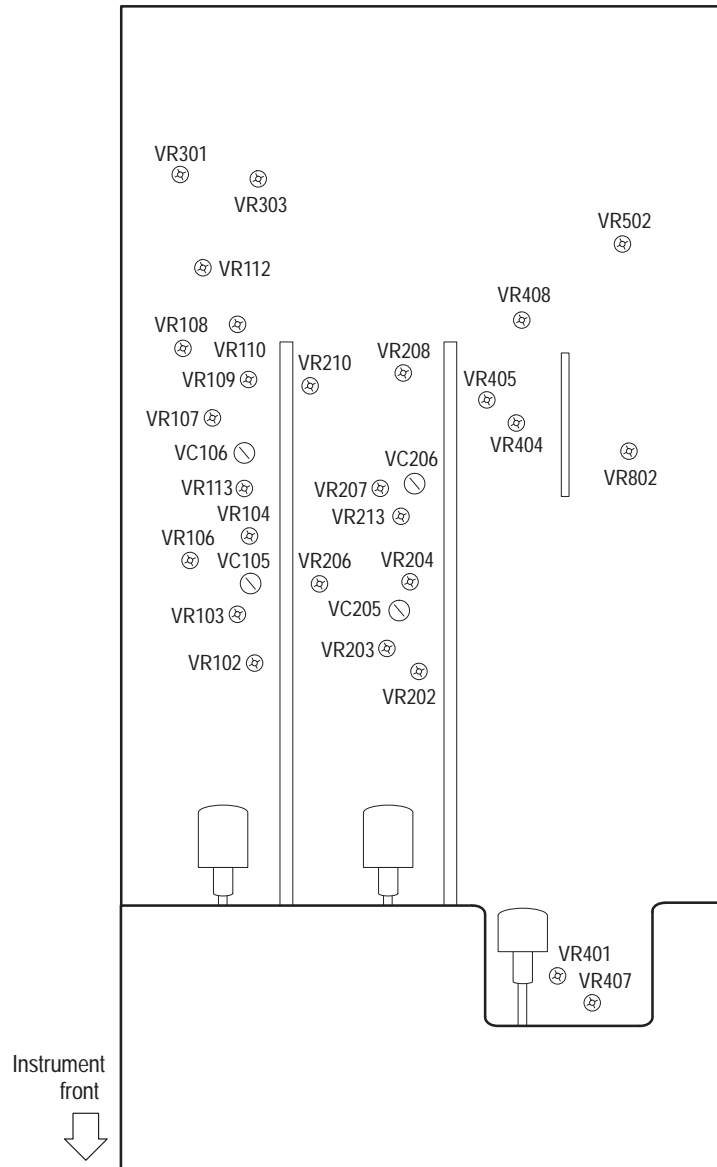

Figure 8: Main board (viewed from the instrument top)
To locate the adjustments for the following procedures, refer to Figures 8, 9, and 10. The Main board occupies the bottom-right side of the instrument.
4. On the Main board, adjust VR104 (VR204) for minimal trace shift when switching the CH 1 (CH 2) VOLTS/DIV control between 2 mV and 10 mV. See Figure 8 for the adjustment locations.
2. On the Main board, adjust VR106 (VR206) for a minimal trace shift while rotating the front panel CH 1 (CH 2) VARIABLE control between the fully clockwise and the fully counterclockwise positions. See Figure 8 for the adjustment locations.
4. On the Main board, adjust VR213 to position the trace half way back to the center horizontal graticule line. See Figure 8 for the adjustment location.
4. On the Main board, adjust VR301 to position the trace on the center horizontal graticule line. See Figure 8 for the adjustment location.
3. On the Main board, adjust VR108 to obtain a waveform five divisions in amplitude. See Figure 8 for the adjustment location.
7. Adjust VR208 to obtain a flat line. See Figure 8 for the adjustment location.
3. Adjust VR102 (VR202) to obtain a waveform five divisions in amplitude. See Figure 8 for the adjustment locations.
3. Adjust VC105 and VC106 (VC205, VC206) for maximum waveform amplitude. See Figure 8 for the adjustment locations.
4. Adjust VR103 (VR203) to obtain a maximum waveform amplitude. See Figure 8 for the adjustment locations.
7. Adjust VR107 (VR207) to optimize the waveform flatness. See Figure 8 for the adjustment locations.
8. Readjust VR103 (VR203) to reduce peak aberrations to less than 0.24 divisions while maintaining peak-to-peak aberrations less than 0.36 divisions. See Figure 8 for the adjustment locations.